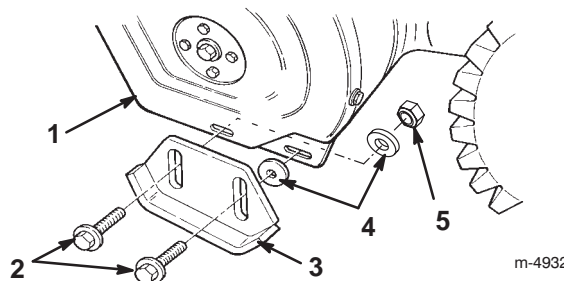

Figure 10
3. Remove the 2 flange bolts and flat washers that secure the ends of the scraper to the side plates (Fig. 10).
5. Insert a washer **between each skid and the side plate** (Fig. 10). Do not tighten the bolts.
7. Insert a washer and a locknut **behind (on the inside of) the side plate** (Fig. 10). Do not tighten the bolts.